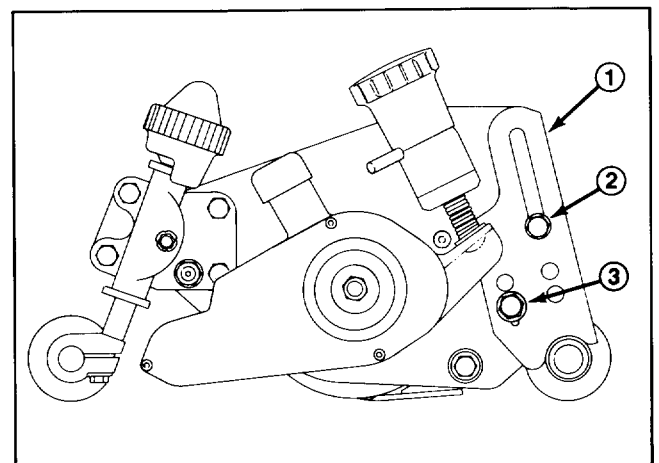

Figure 2
2. Assemble rear Height of Cut brackets to desired position, by loosening top capscrew and nut and removing bottom nut and bolt on right and left hand sides of cutting unit (Fig. 2).